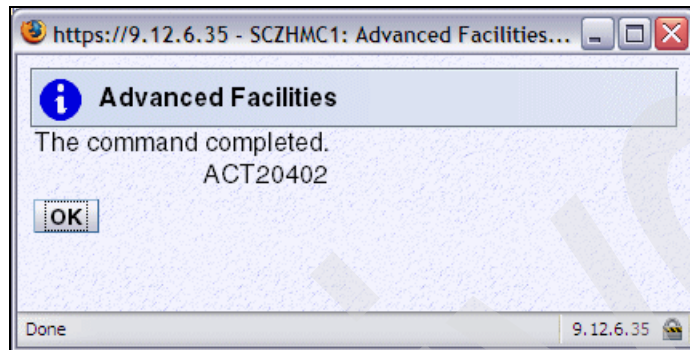

Figure 4-43 HMC - OSA Advanced Facilities (Export completed)
13.The HMC task writes the configuration data for the Channel ID that was selected onto the media device and displays a message panel when it has completed (Figure 4-43). Click **OK**.